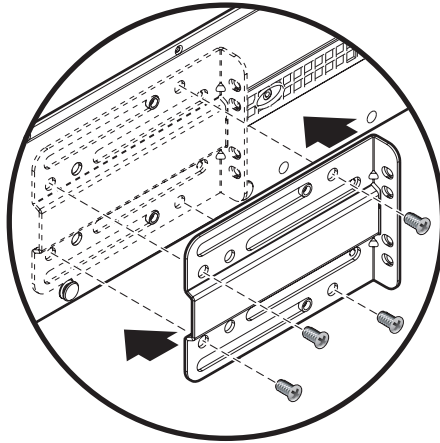

FIGURE 12-21 Removing the Front Rack Bracket From the System Chassis
3. Remove the front rack bracket from the system chassis (FIGURE 12-21).